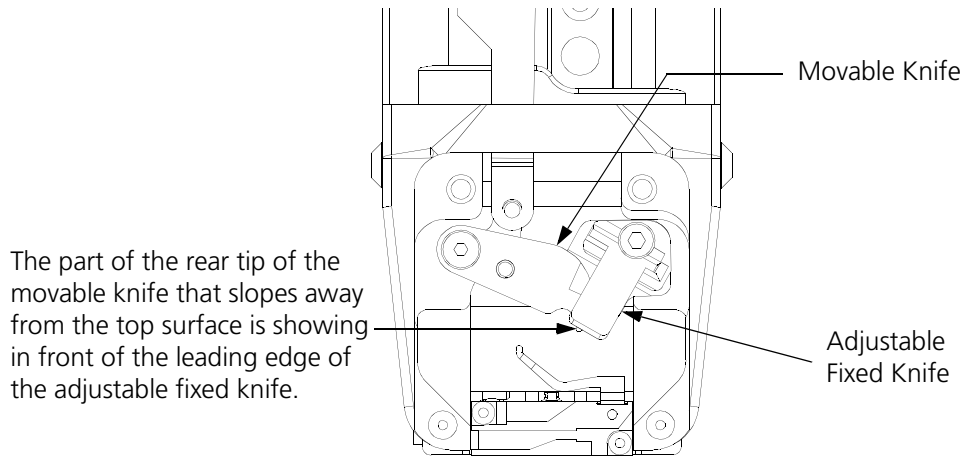

Figure 4-21
4. Visually check all movable knives. The knives should be located under the adjustable fixed knife, positioned as shown in Figure 4-21. If the sloped rear tip of the movable knife is not showing in front of the leading edge of the adjustable fixed knife, the "home" position needs to be adjusted. DO NOT Adjust if the knife position looks like Figure 4-21.
8. Move the trimmer rod until all the knives are at the home position as shown in Figure 4-21, then tighten the screw at point A.
12. With the end now loose from the trimmer rod, rotate the trimmer drive arm until the moveable knife is at the home position as shown in Figure 4-21. Tighten the screw and replace the plug into the bed cover.
30. Visually check all movable knives. The knives should be located under the adjustable fixed knife, positioned as shown in Figure 4-21. If not repeat Steps 6 through 8 or 10 through 12 before continuing.
42. Inspect all 6 knives to insure they are at the home position. The rear point of the movable knife should just protrude from under the adjustable fixed knife (refer to Figure 4-21).